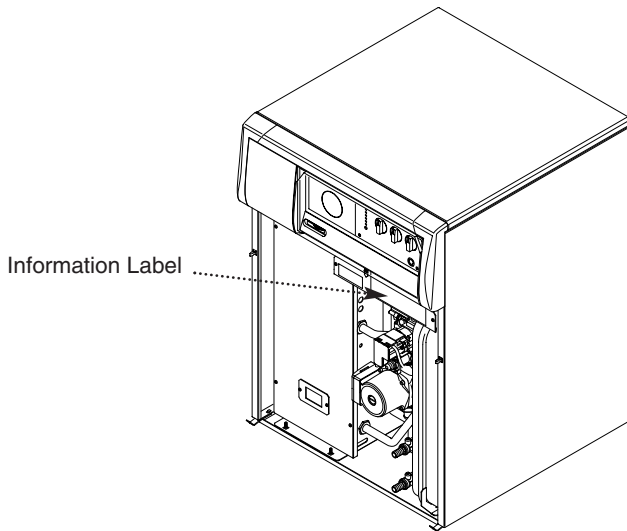

Fig. 24
3. The name, model number and serial number can be found on the information label on the wiring cover panel (Fig. 24).